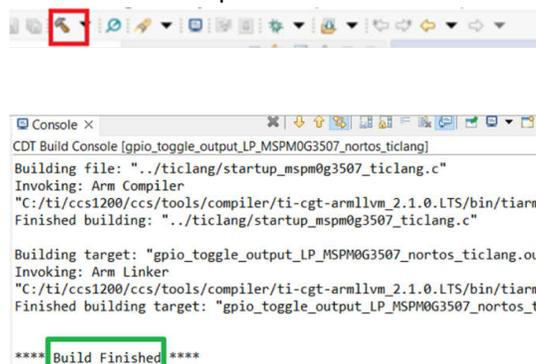

Figure 2-34. Successful Build
- As users finish evaluating the software, click the *build* icon in the main toolbar, as shown in Figure 2-34. The appearance of *Build Finished* means the compilation is successful.